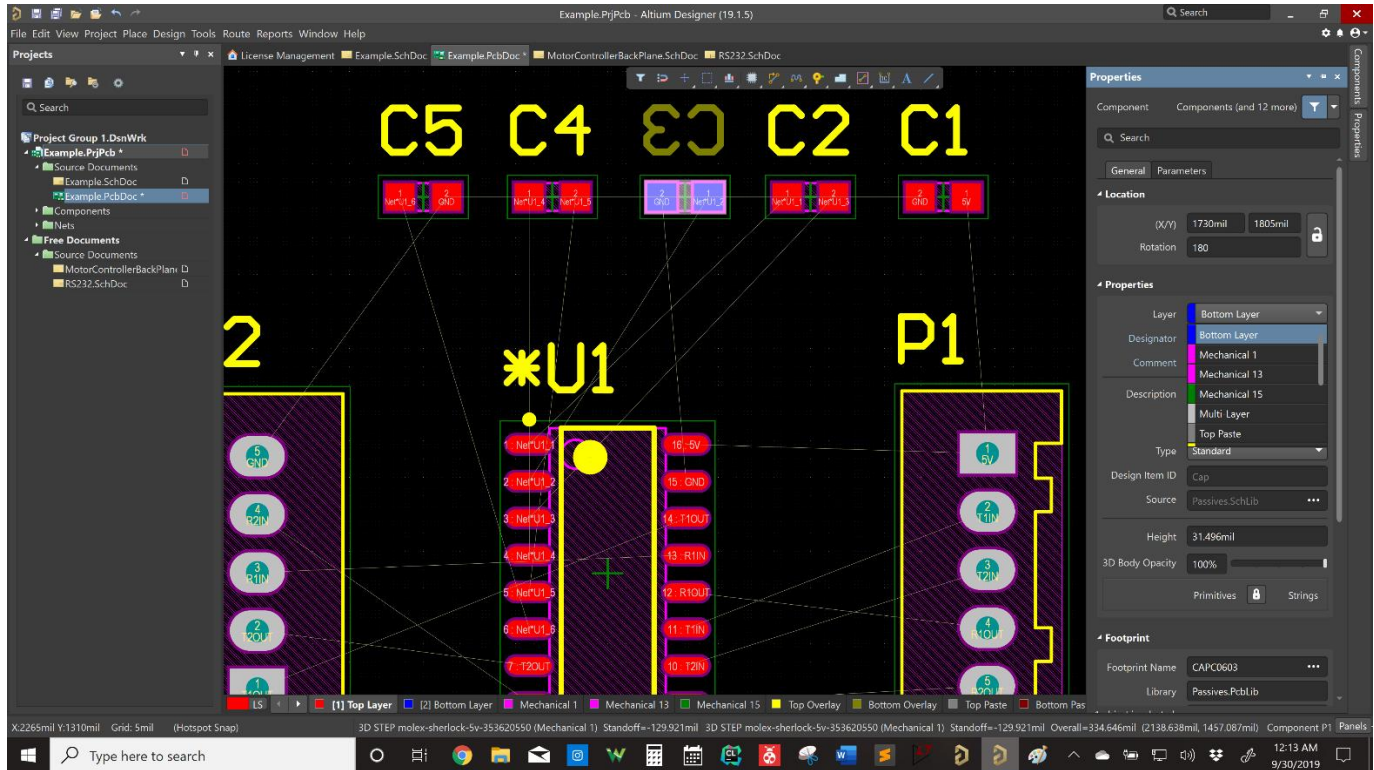

Figure 7: Properties Screen to Move Between Layers
14. Sometimes you will want to put capacitors on the bottom of the board (currently all are on the top layer). To do this, select a components properties (double-click) and click on the drop-down list called “Layer” then select “Bottom Layer” as shown in Figure 7.